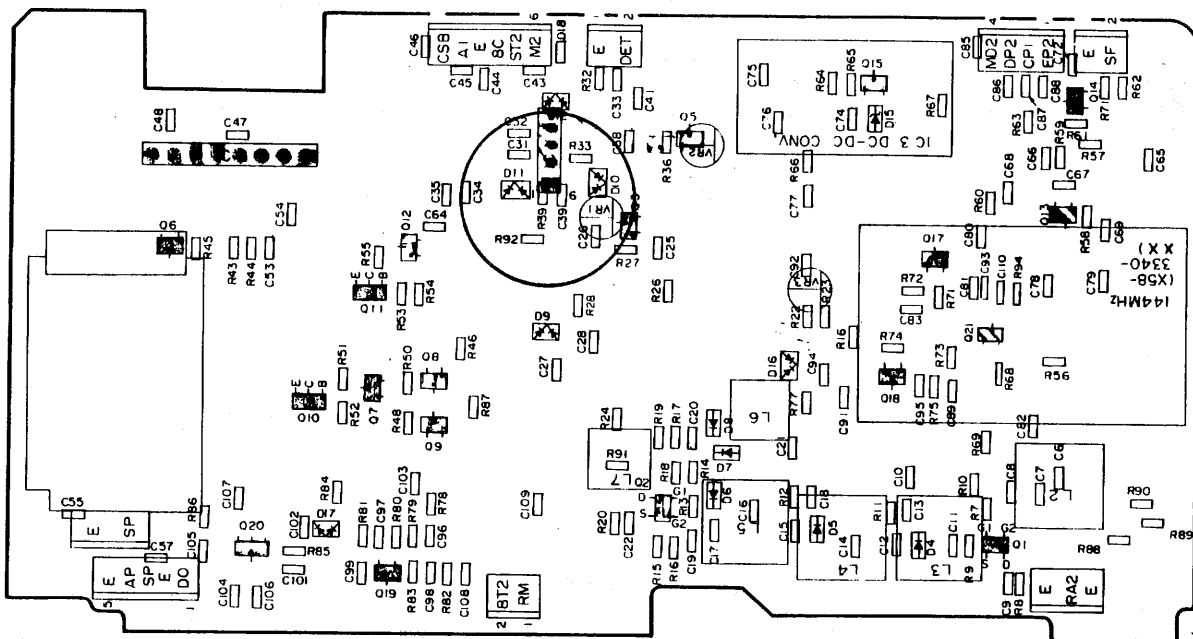

FIGURE 1
4. Desolder and remove C39 from the bottom of the board. Install and solder a 10pF capacitor in place of C39 (Figure 1).
5. Add a 0.47uF capacitor from the junction of R39 and D11 to ground (Figure 1). Install the TX-RX unit.